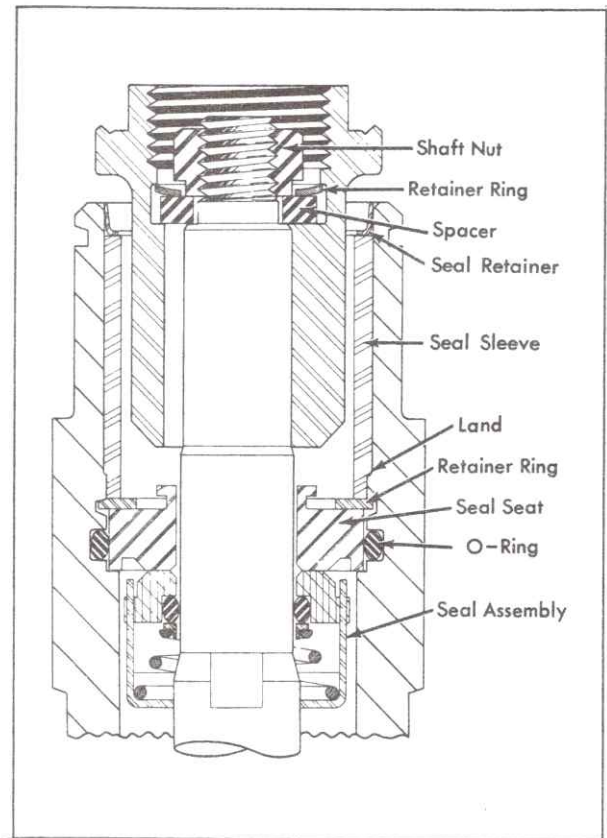

Fig. 1-45 Shaft Seal &amp; Seal Seat Installed
2. Install new O-ring seal in groove in front head casting bore, making certain that O-ring is installed in bottom groove, Fig. 1-45. Top groove is for retainer ring.
Remover and Installer, J-9393, press down on retainer ring until spring pressure of shaft seal is overcome and retainer ring snaps into its groove in casting bore, Fig. 1-45.
**NOTE:** The chamfer that can be seen from the shaft end is a land, not a groove, Fig. 1-45.
11. Position metal retainer in place and using the sleeve from J-9393 seal seat remover and a soft faced hammer, tap the retainer in until it is flush with neck of compressor, Fig. 1-45.